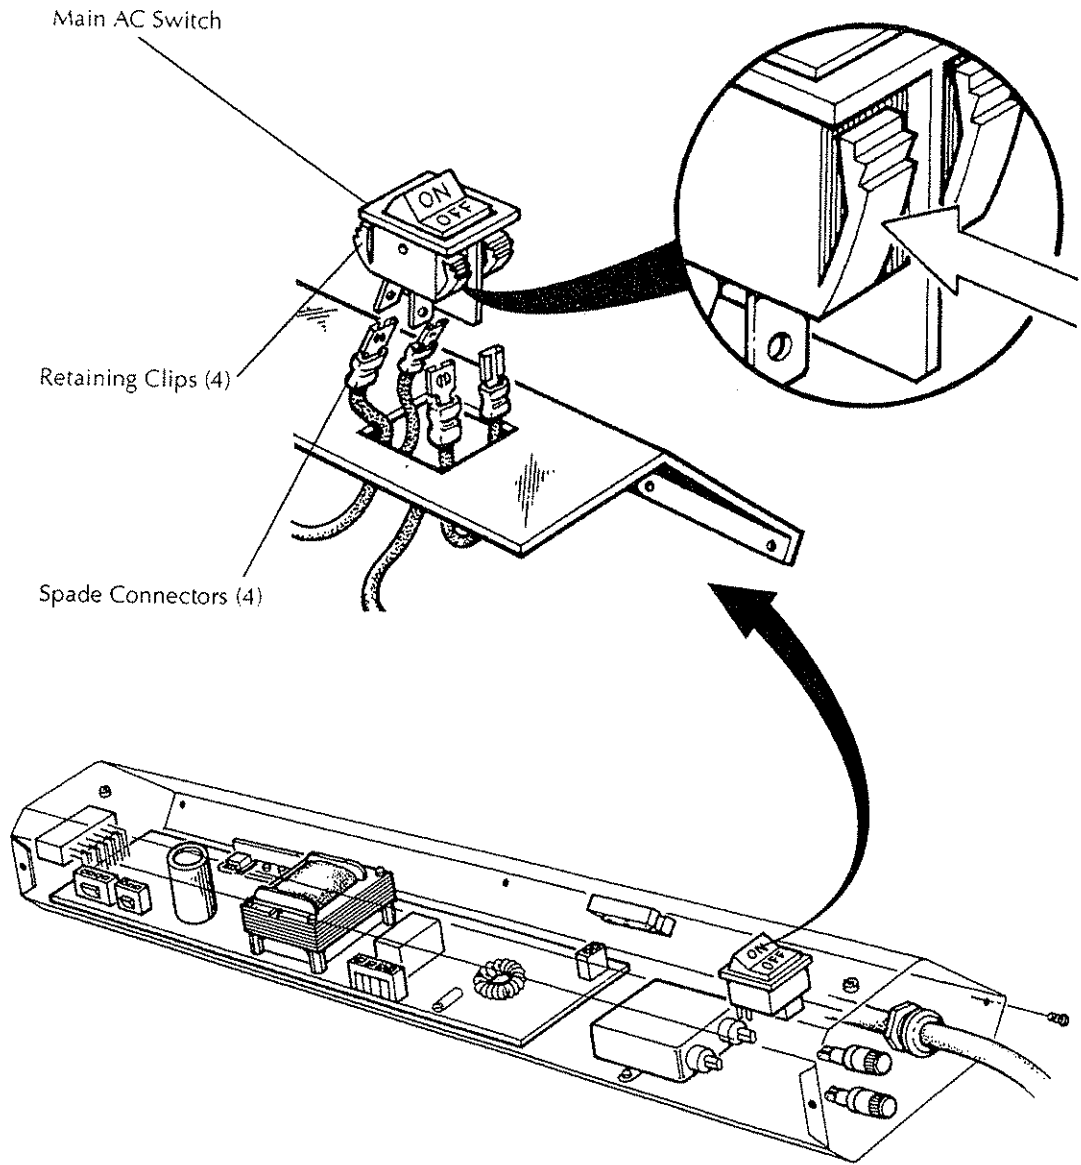

Figure 5-4: Replacing the Main AC Switch
2. Label and disconnect the four wires (spade connectors) from the AC switch. See Figure 5-4.
3. Press in on the the AC switch's four retaining clips and simultaneously pull the switch free from the relay box. See Figure 5-4.